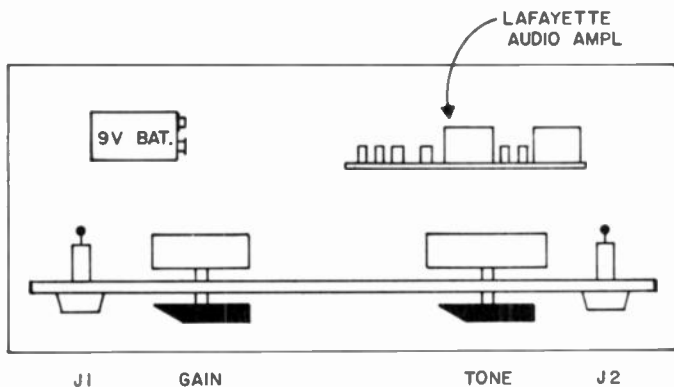

Fig. 7-3. Handy af assembly, top view.
*The AF Amplifier.* This item should not be neglected as it is at times a great aid to getting a trouble-free, *noiseless* carrier, which you can then modulate and be proud of. The valuable RCA handbook, "Transistors, Thyristors, and Diode Manual," has a lot to say about "discontinuous jumps in amplitude or frequency as various levels of drive are encountered." These little termites can be seen on the meter or *heard* on the af amplifier or can show up on both. Figure 7-3 shows a mounted version of the af amplifier